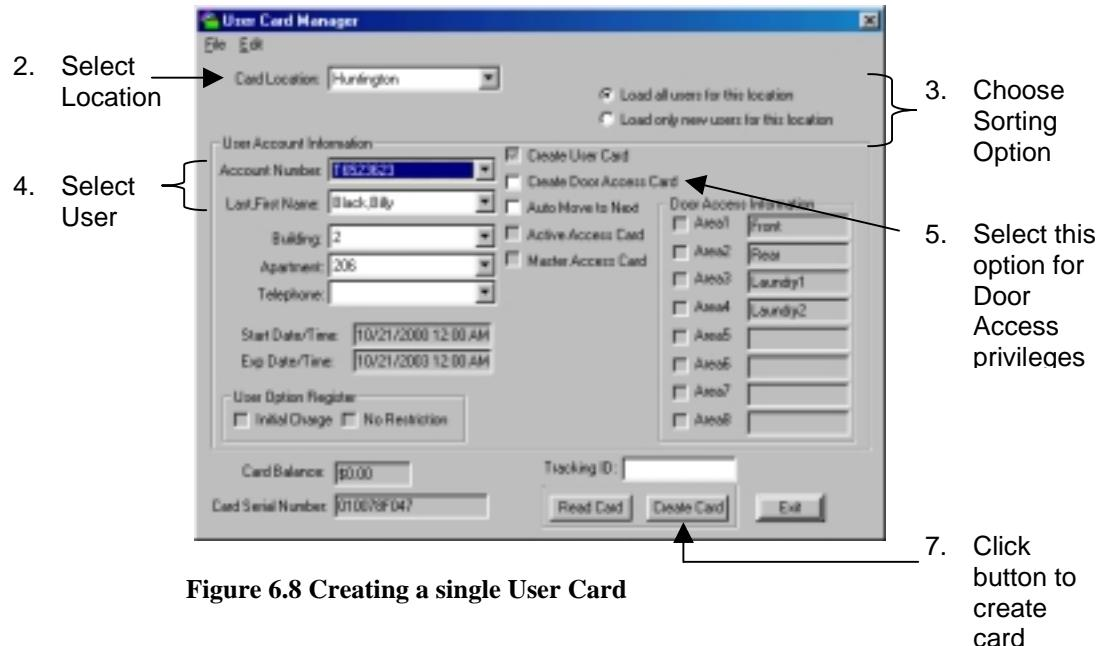

Figure 6.8 Creating a single User Card
2. Select the user's location from the Card Location drop down selection (Figure 6.8).
3. If this card is being created for a new user, select the "Load only new users for this location" sorting option to limit the number of users to be listed (Figure 6.8).
4. Select the User Account Number or name from the appropriate drop down selection (Figure 6.8).
5. If this user card will also be used for door access privileges, enable the “Create Door Access Card” option by clicking on the appropriate box (Figure 6.8).
7. Click the Create Card button (Figure 6.8).